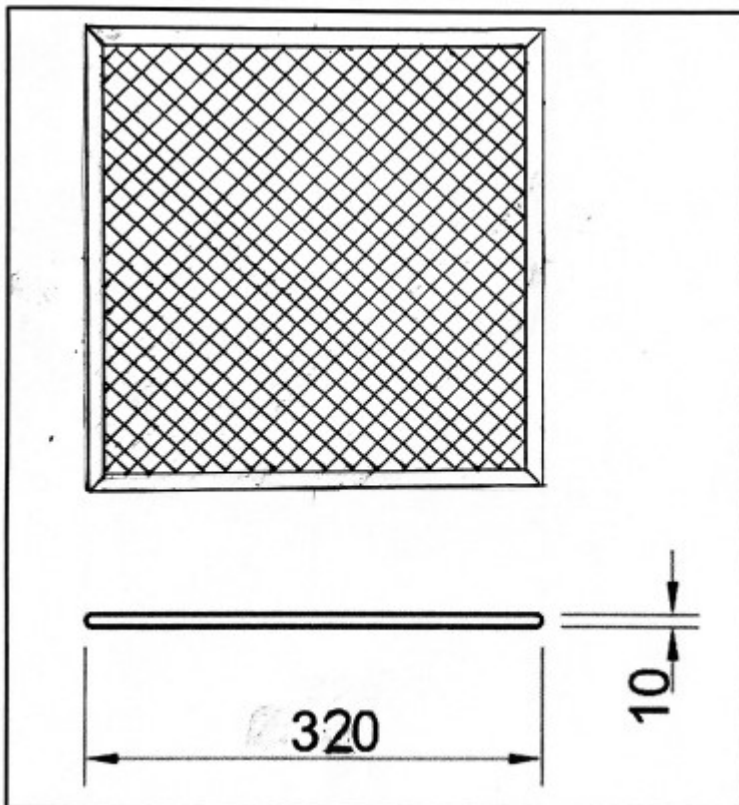

FIGURE 1 – FIRE-GRID
- Cut material(sheetmetal) to size as indicate in Figure 1 and 2
- Mark out the dimensions for the expanded metal Figure 1 and cut neatly.